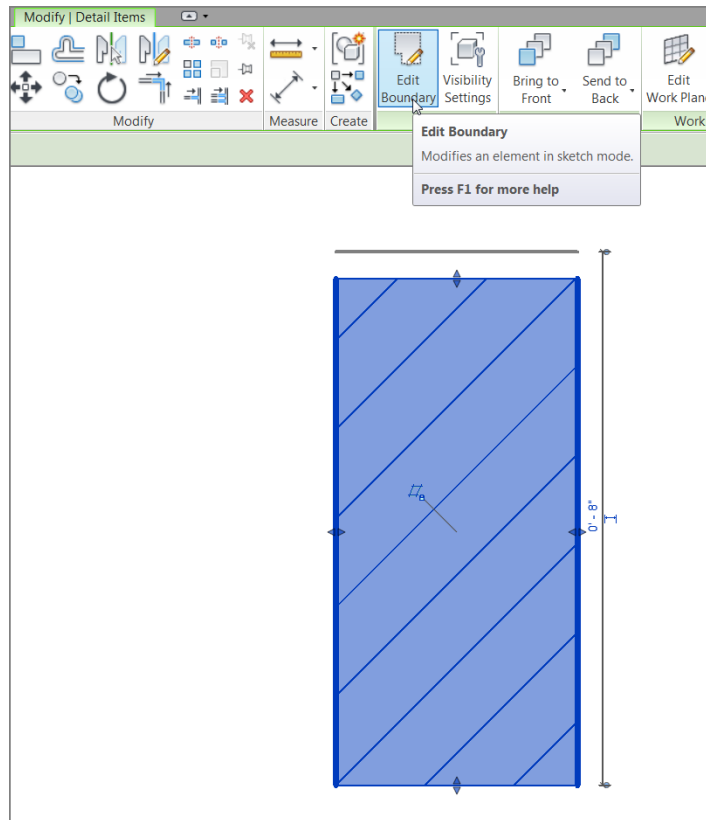

FIGURE 12.18: Editing the boundary of the filled region
8. Select the line that is hovering over the top of the brick, and mirror it to the bottom so you have a line above and a line below the brick, as shown in Figure 12.18.
9. Select one of the heavy lines that form the outline of the brick (see Figure 12.18). Revit indicates that this is a filled region, as revealed in the tooltip that appears when you hover your pointer over one of the boundaries.
10. On the Mode panel of the Modify | Detail Items tab, click the Edit Boundary button (see Figure 12.18).